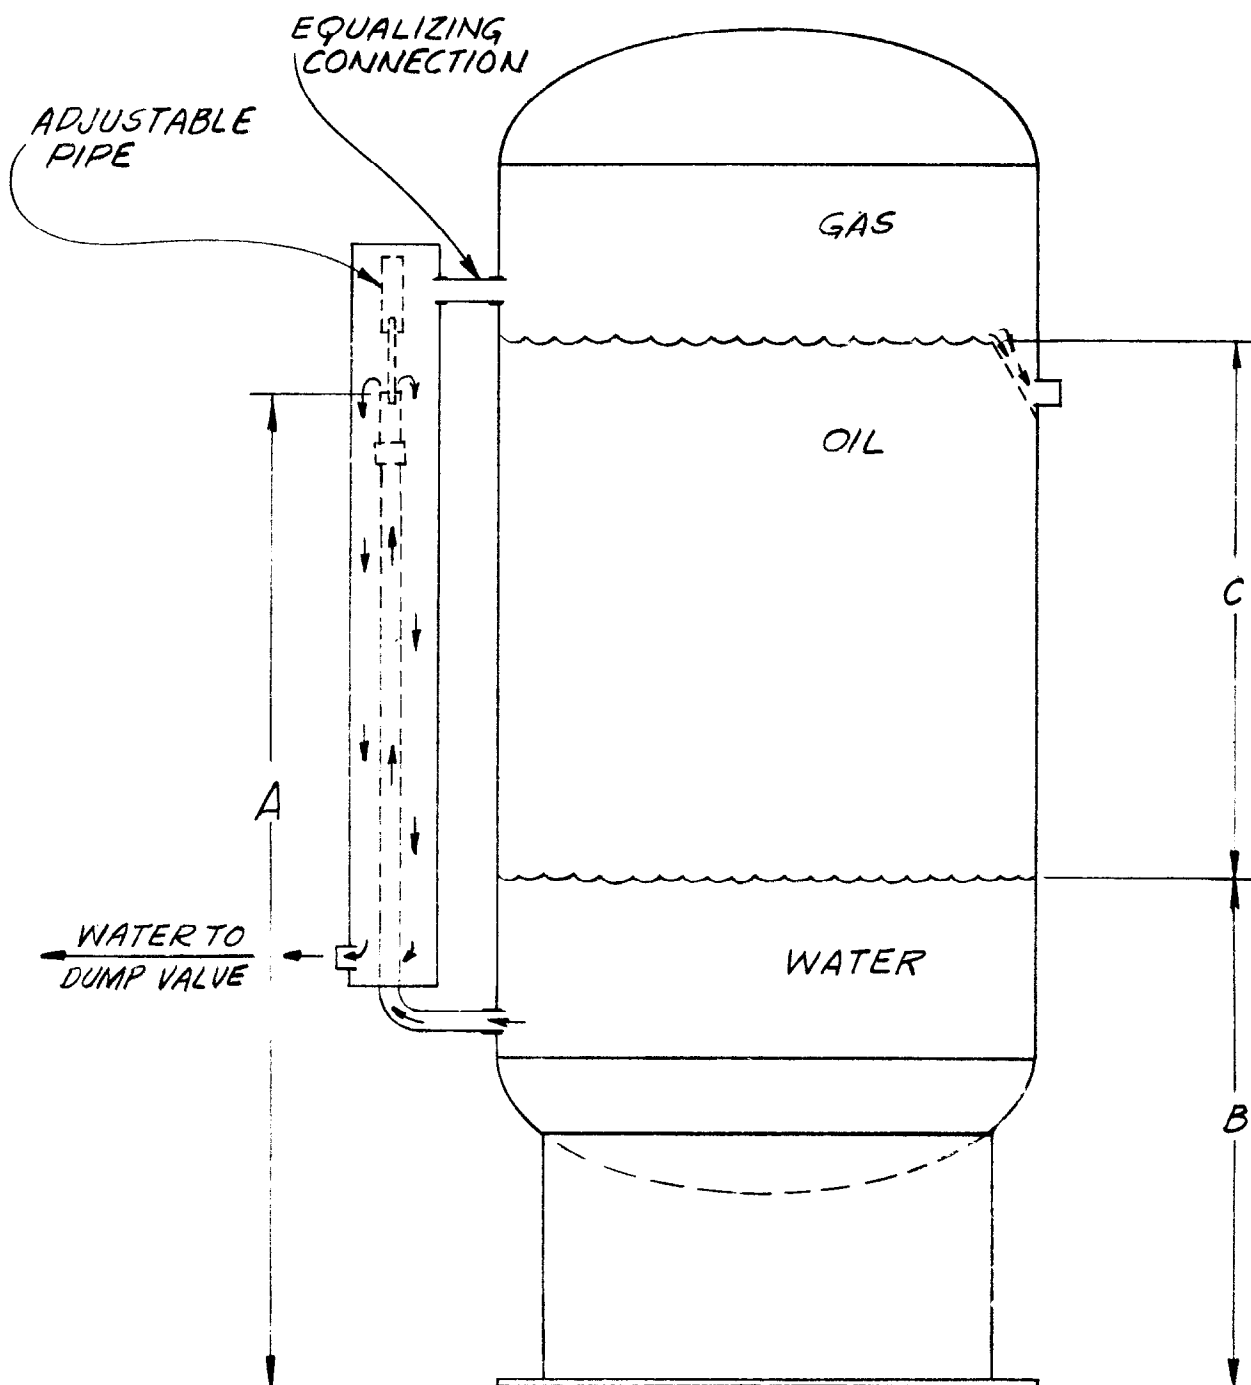

Figure 1
Figure 1 shows a schematic drawing of a BS&B Water Discharge System. The arrows show the path of the water as it leaves the treater. The water passes through the piping and up to the top of the adjustable pipe. The height of the oil-water interface may be adjusted by changing the height of this pipe. The correct operation of a siphon depends on a fixed oil elevation in the treater. This is usually accomplished by a spill-over weir on the oil outlet. By means of equalizing piping, the pressure in the siphon is maintained the same as that in the treater. Therefore, any flow of fluid from the treater to the siphon depends only on the levels maintained in the treater. In principle, the height of the water column in the adjustable pipe (A) will be such that its weight per unit area would equal the combined weights per unit area on the oil and water in the treater. Since water is heavier than oil, it takes a shorter column of water to counterbalance a combined column of water (B) and oil (C). Raising the adjustable pipe will cause the oil-water interface to rise. Lowering the pipe will cause the interface to lower. When the water spills over the top of the adjustable pipe, it falls down into the larger chamber surrounding the adjustable pipe and is discharged by the water dump valve.